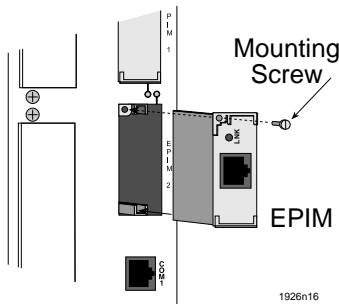

Figure B-2 Installing an EPIM
- 2. Slide your new EPIM into place, making sure the connectors on the rear of the module and inside the EMM-E6 attach properly. Refer to Figure B-2.